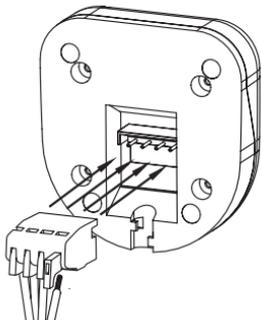
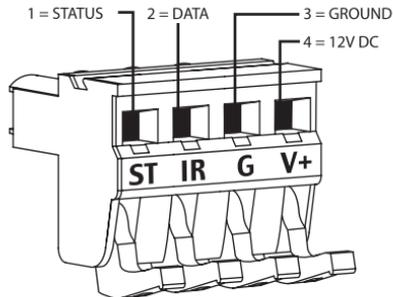

Figure 5 Installing the removable connector
Figure 6 Removable Connector Plug
6. Insert each wire into the appropriate hole on the removable connector plug (**Figure 6**), and snap the locking tab down. To help you, the connector plug is keyed. Insert the smooth side of the connector plug into the smooth side of the socket. Don't force the scalloped side of the connector plug into the smooth side of the socket (**Figure 5**).